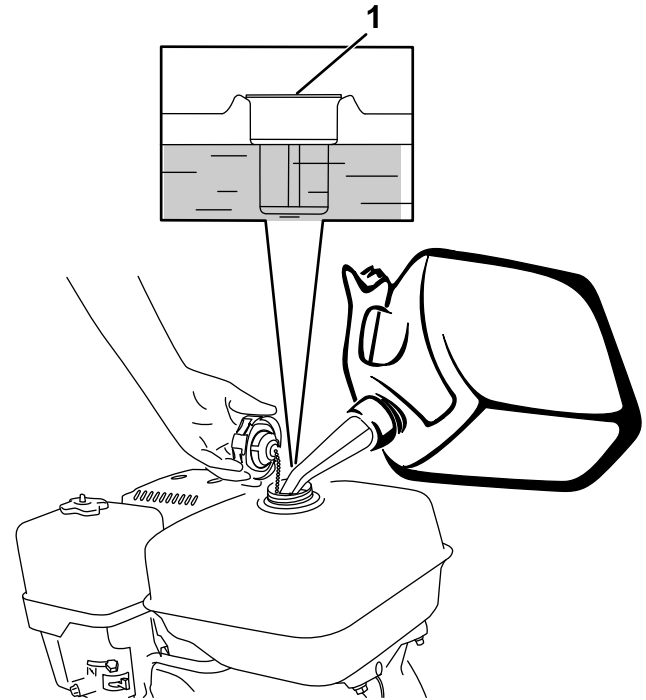

Figure 11
3. Fill the fuel tank to the top of the filter screen (Figure 11).